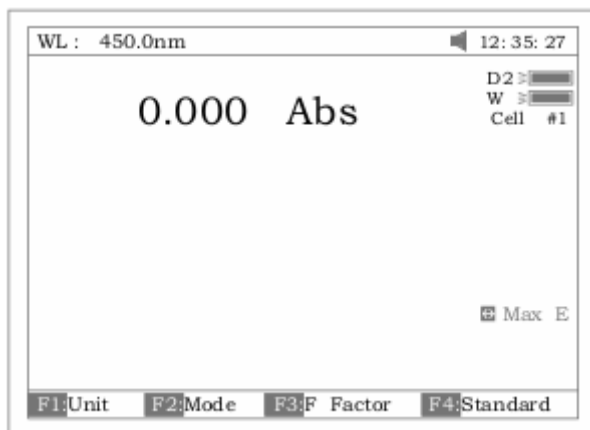

Fig.12
- Press **【ENTER】** to change the wavelength from 656.1nm to 450.0nm, and then blank; After blanking, the screen displays as Fig 12.